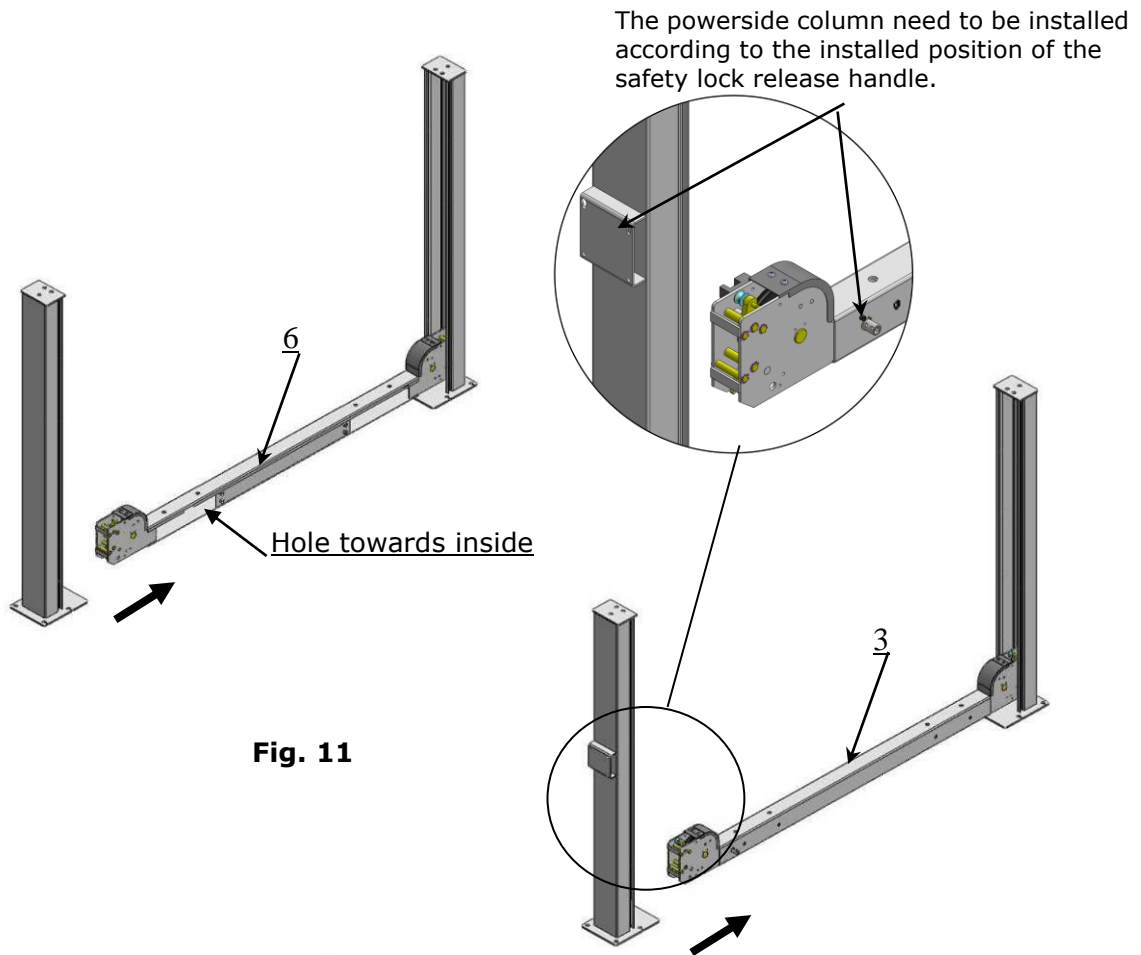

Fig. 11
C. Install cross beams (See Fig.11, Fig.12).